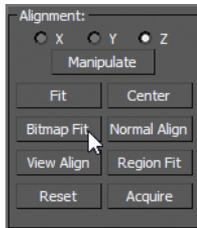

FIGURE 10.9
4. In the Alignment section, click the Bitmap Fit button, as shown in Figure 10.9.